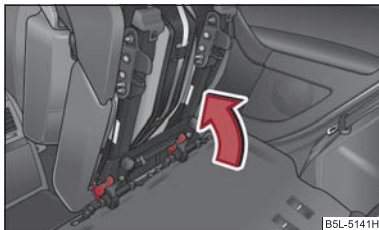

Fig. 66 Locking the seat
- Lock the seat at the end of the guide ⇒ fig. 66. ■
- If the seat is removed, first of all position it on the guide and lock the seat ⇒ fig. 66. Check for yourself that the seat is correctly locked by pulling it up.